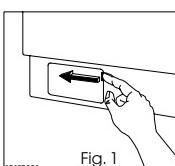
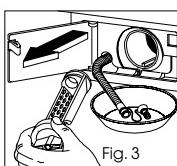

Fig. 1
Fig. 3
1. Unpack the appliance. Tilt the appliance backwards, give to one of the back corners a quarter turn. The appliance comes free naturally out the polystyrene basis. Take away this basis (fig.1).
3. On the back part and with a spanner, remove the two red loosened spacers (**A**) (fig.3).
- open the flapdoor covering the filter by pressing the left hand side of the filter door (fig. 1 & 2). Place a container underneath to catch any spillage. According to the models, complete the draining of the appliance by taking away the yellow cap and by extracting the little hose located on the left of the filter (fig. 3).